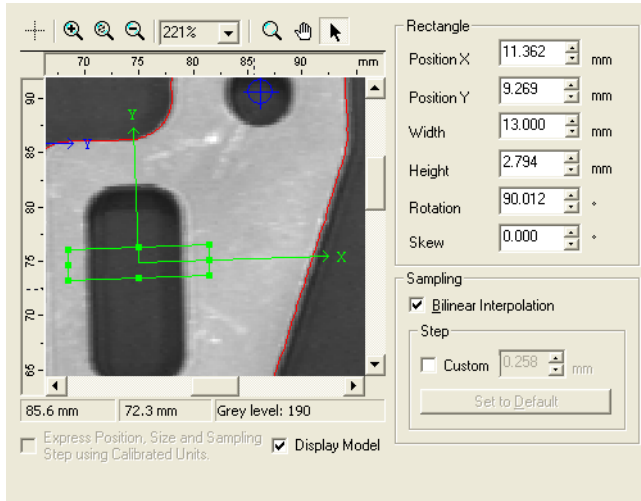

Figure 64 Adjusting the Size, Position and Orientation of the Caliper Rectangle
8. Place the Rectangle on the part as shown in Figure 64.